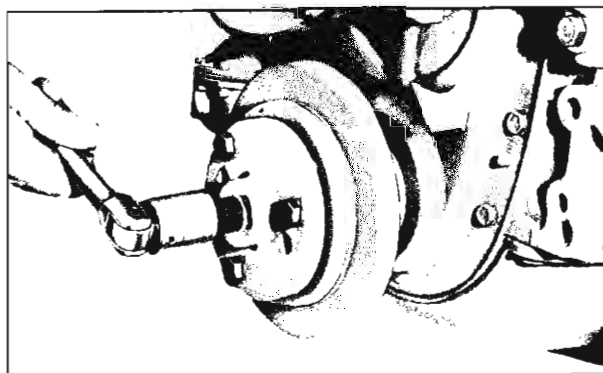

Fig. 75—Removing Balancer
6. Install Tool J-6978 to harmonic balancer and turn puller screw to remove balancer from crankshaft (fig. 75).